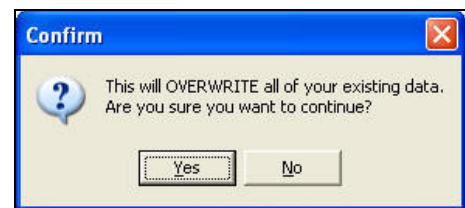

Figure 31.2.12
- This will take you to the **Confirm** window. This screen asks you the following: **This will OVERWRITE all of your existing data. Are you sure you want to continue?** (Figure 31.2.12).